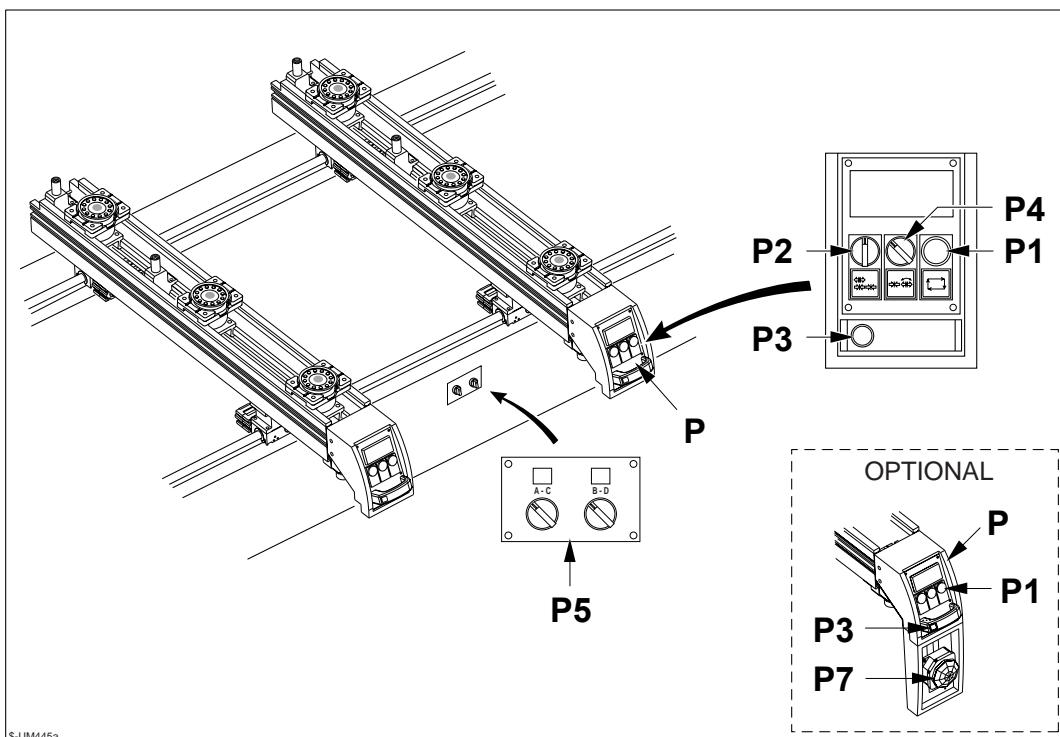

Fig. 4.2
On the machines there is one pushbutton panel P (Fig.4.2):
- To release the panel from the worktable turn selector P2 (fig. 4.2) to the stable position or press the multi-function push-button P7 (fig. 4.2a)